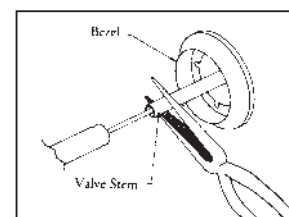

FIG. 22 Low Setting Adjustment
4. While holding the valve shaft with pliers, insert a thin, flat tipped screwdriver into the shaft and while viewing the burner adjust to a minimum stable flame (Fig. 22).